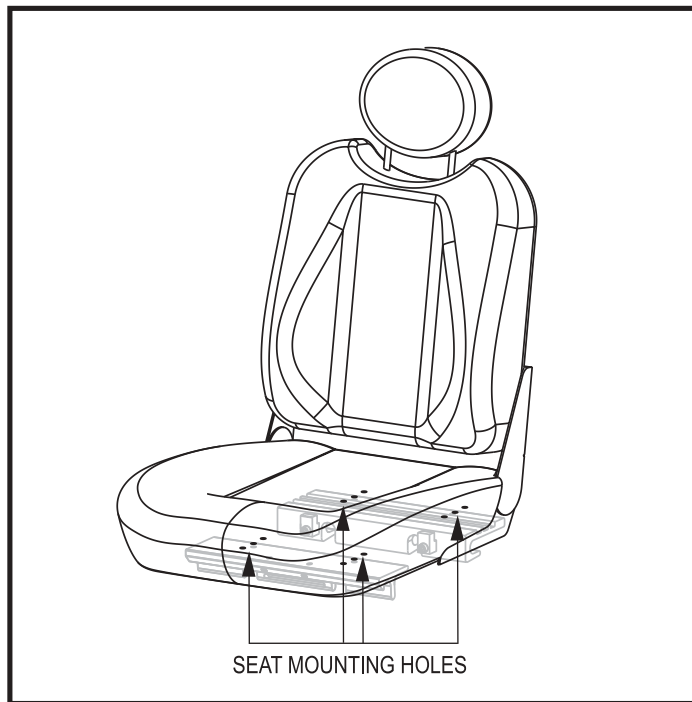

Figure 14. Seat Position Adjustment
4. Reposition the extrusions on a different set of mounting holes. You must move both extrusions the same number of holes either forward or rearwards. See figure 14.